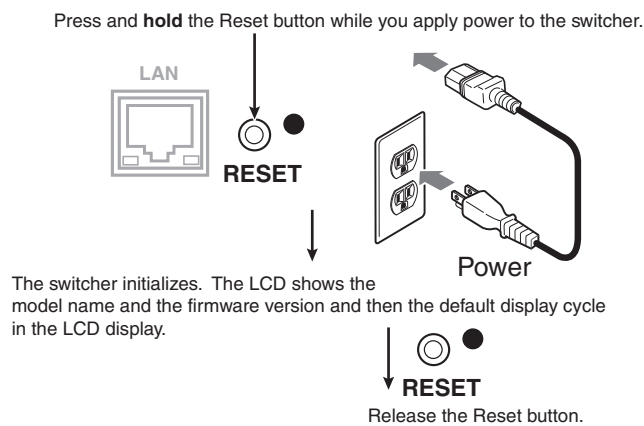

Figure 3-33 — Hard reset
2. Press and **hold** the Reset button on the rear panel **while** you apply AC power to the switcher (figure 3-33).